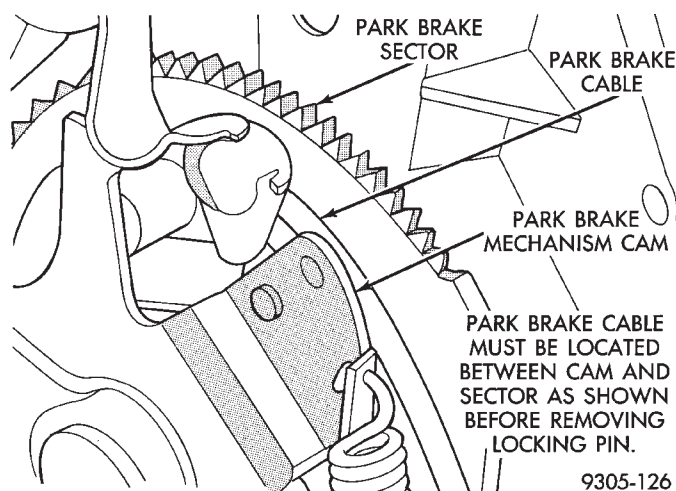

Fig. 25 Correct Park Brake Cable Routing At Pedal Assembly
(8) Ensure that park brake cable is properly routed in cam surface track of park brake pedal assembly (Fig. 25). Using a pair of pliers, firmly grasp lock pin previously installed in park brake mechanism. Remove lock pin from park brake pedal mechanism, using a firm and rapid pull. When locking pin is removed from park brake pedal mechanism, the park brake mechanism and park brake cables will automatically adjust. **See parking brake adjustment**